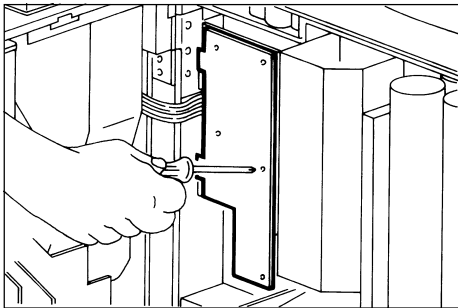
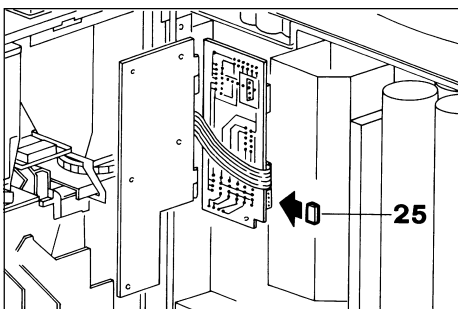

Fig. 11
Fig. 12
- To insert key, remove the three screws fastening the coiner plate and turn the latter (Fig. 11) in order to gain access to the connector fitted on the selection panel board. The key must be inserted into this connector fitted on the selection panel board (Fig.12).